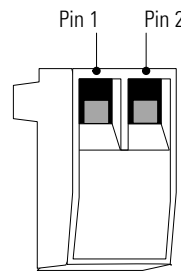

Figure 14. REPO Connector
2. Remove the REPO connector from the REPO port on the UPS rear panel (see Figure 14).
3. Connect isolated, normally-open, dry contacts (rated to handle 60 Vdc maximum, 30 Vac RMS maximum, and 20 mA maximum) across the REPO device to Pin 1 and Pin 2 (see Figure 14). Use stranded, non-shielded wiring, size 0.75 mm²–0.5 mm² (18–20 AWG).